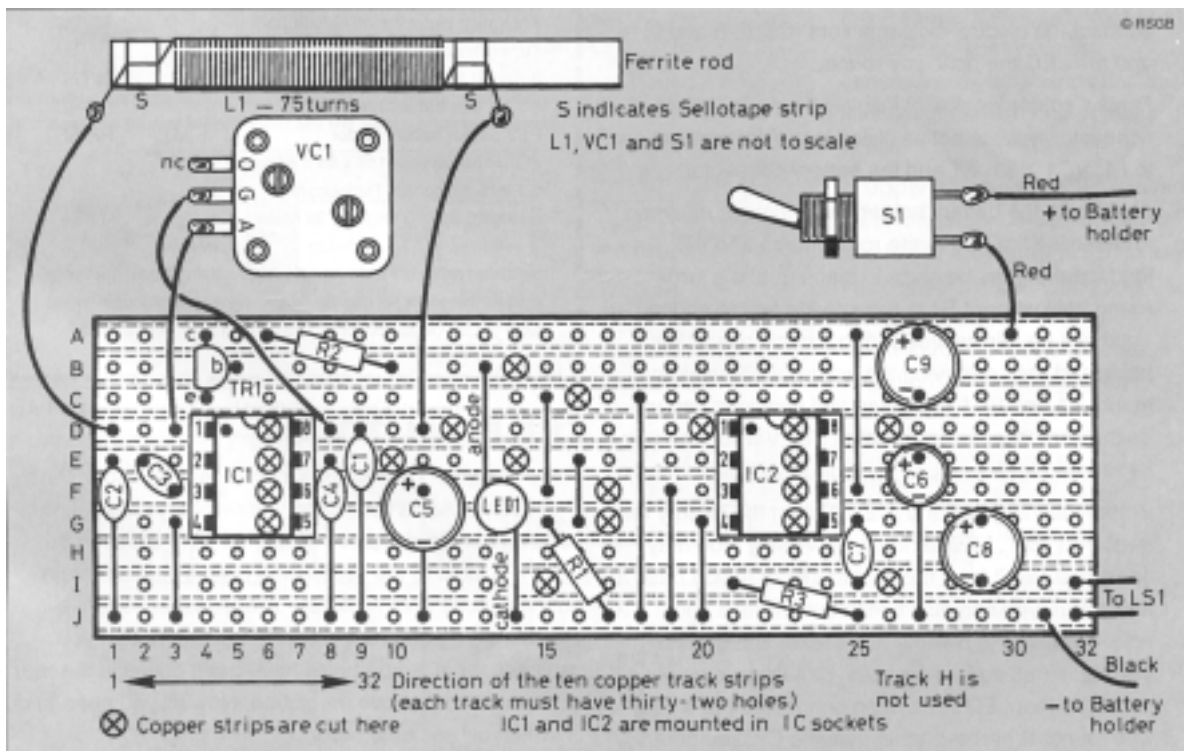

Figure 2 Veroboard layout for the Portable Radio. Make sure that all the wire links are included
2. Most of the components are mounted on a piece of Veroboard (the type with parallel copper strips on one side). The piece used on the prototype measured 32 holes by 10 strips, as **Figure 2** shows. Before you start fitting components, cut the copper strips as shown. It is easier to do it now than when the board is littered with components! The strips may be cut with a 3 mm ($\frac{1}{8}$ inch) twist drill rotated between thumb and forefinger. Resist the temptation to use a hand drill – the idea is just to cut the copper, **not** to drill right through the board!
3. Solder the IC sockets and the other components on the board as shown in **Figure 2**. Make sure that the IC sockets are fitted with their notches towards the *top* of the board, as viewed in **Figure 2**. Do not insert the chips yet. Always keep the wires left over from cropping resistors and capacitors, they will come in handy at times like this: make the wire links that are clearly shown in **Figure 2**. Connect the electrolytic capacitors (C5, C6, C8 and C9), the transistor and the LED the correct way round; then check it again when you have done it!